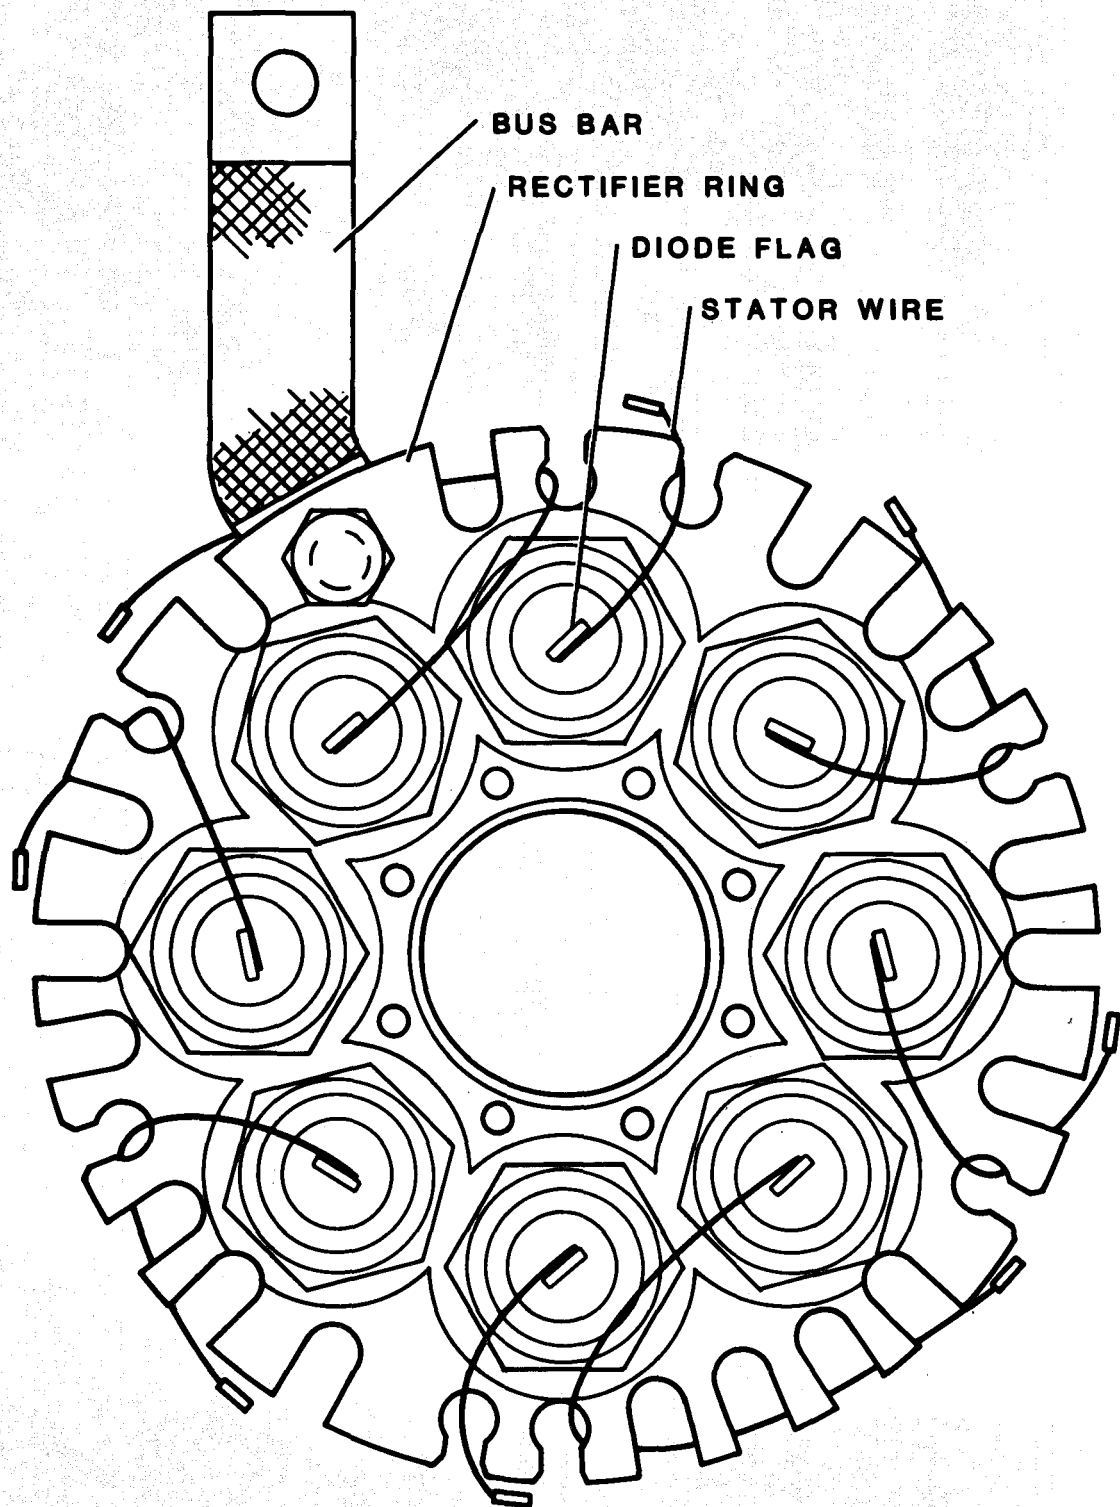

Figure 5-7. Stator to Diode Wire Routing
(25) Install diodes (30) in same mounting hole of rectifier ring (27) from which each was removed during disassembly. Ensure that diode flags are positioned as shown in figure 5-7. This will make attaching diode wires easier.
(28) Pop plastic grommets and stator wires into correct keyhole slots in rectifier ring (27). Refer to figure 5-7 for stator to diode wire routing.